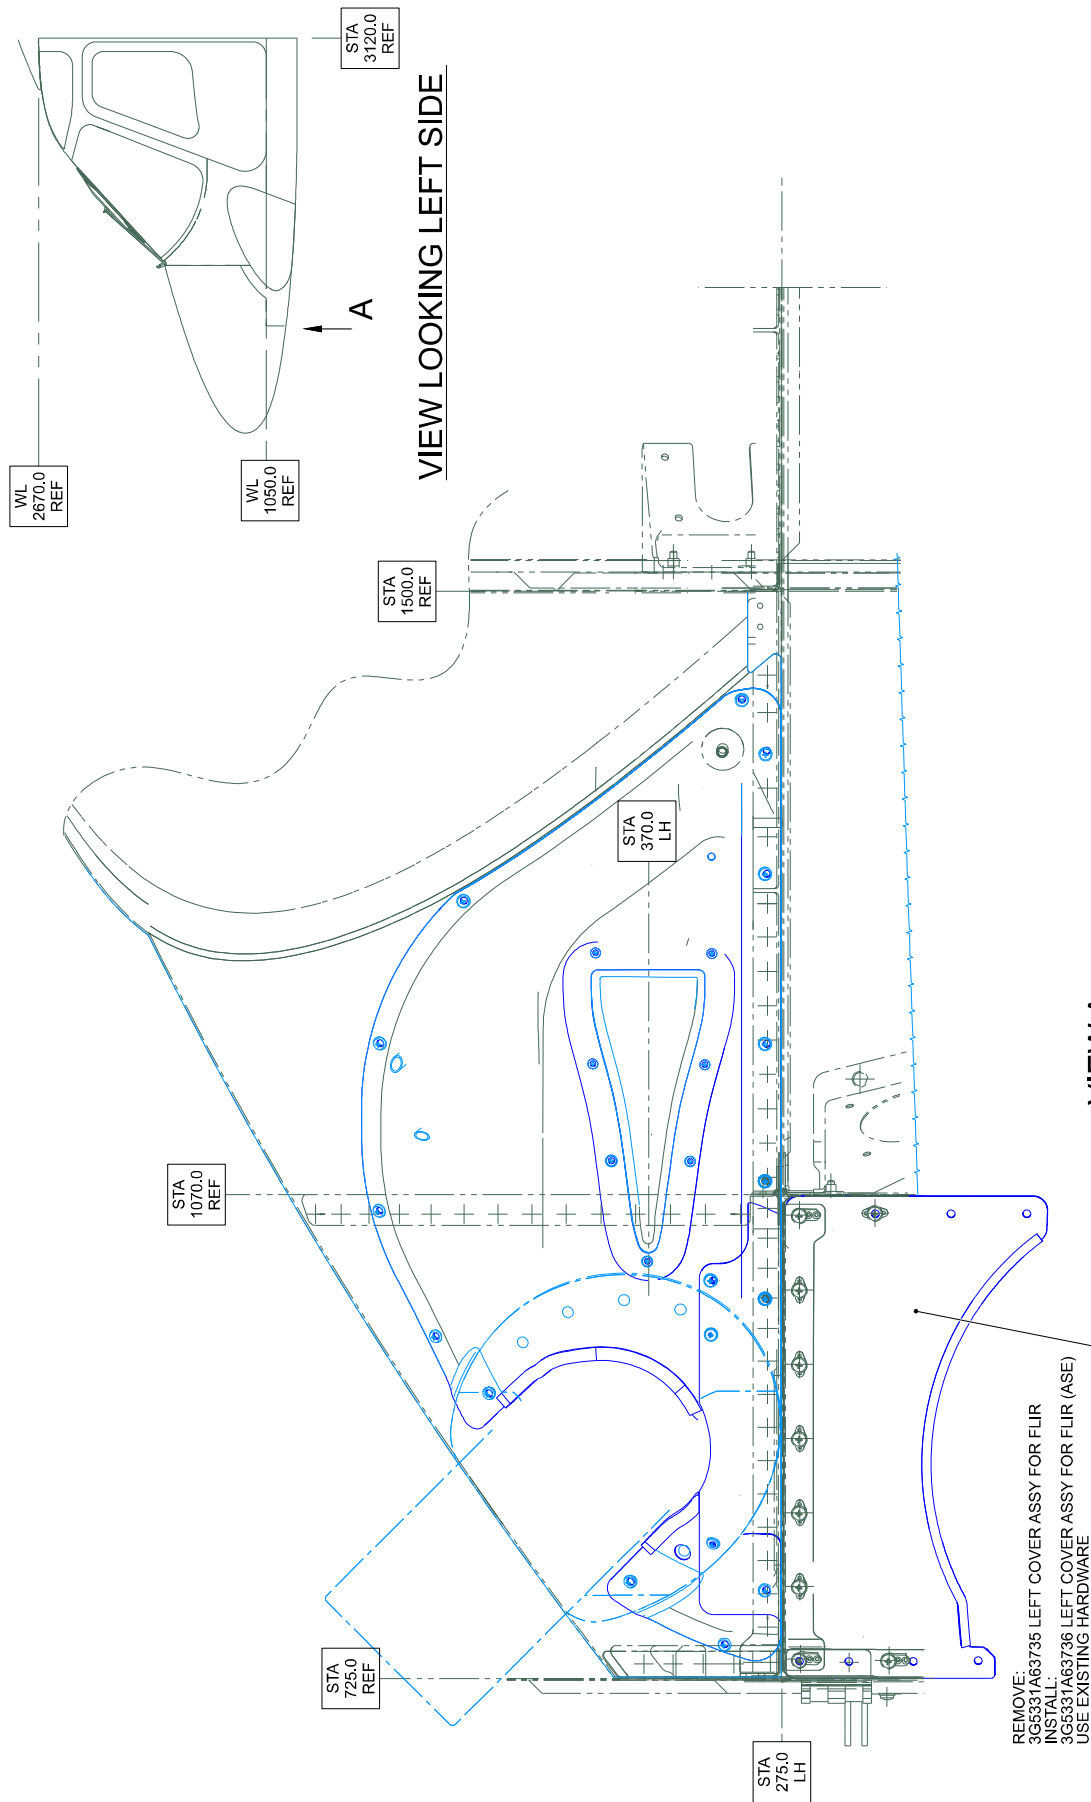

Figure 7
14. With reference to Figure 7 View A, perform the left cover assy variant for ASE P/N 3G5311A58911 and install the left cover assy for FLIR (ASE) P/N 3G5331A63736 by means of existing hardware previously removed at step 3.